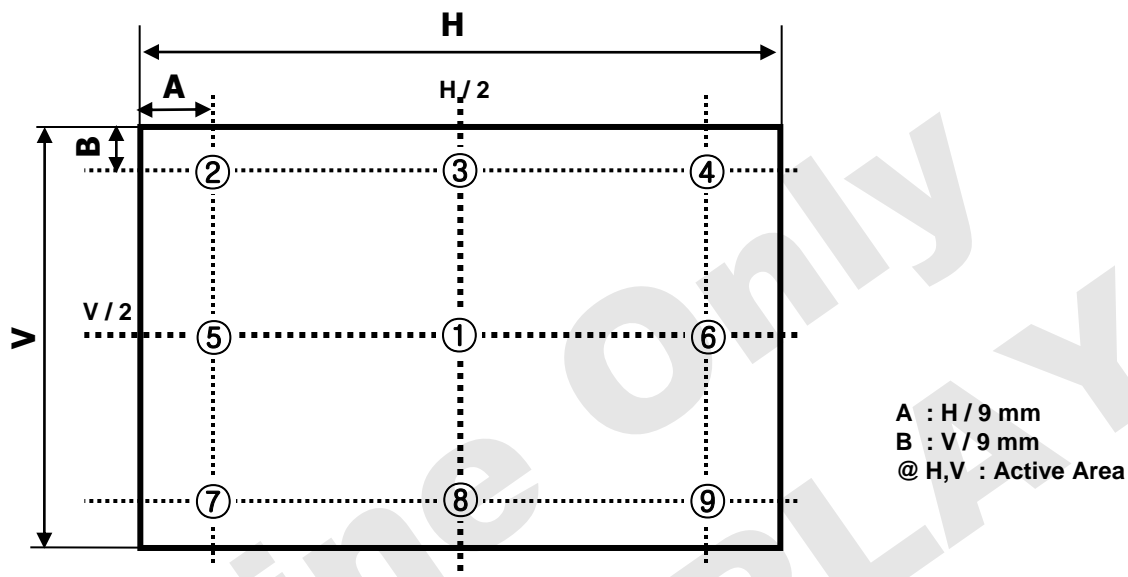

FIG. 2 9 Points for Luminance Measure
2. Surface luminance is determined after the unit has been 'ON' and 1 Hour after lighting the backlight in a dark environment at  $25 \pm 2^\circ\text{C}$ . Surface luminance is the luminance value at center 1-point across the LCD surface 50cm from the surface with all pixels displaying white. For more information see the FIG. 2.